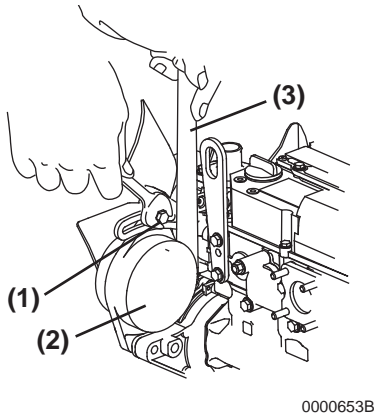

Figure 5-4
- If necessary, adjust the V-belt tension. Loosen the adjusting bolt (Figure 5-4, (1)) and move the alternator (Figure 5-4, (2)) with a pry bar (Figure 5-4, (3)) to tighten the V-belt to the desired tension. Then tighten the adjusting bolt.